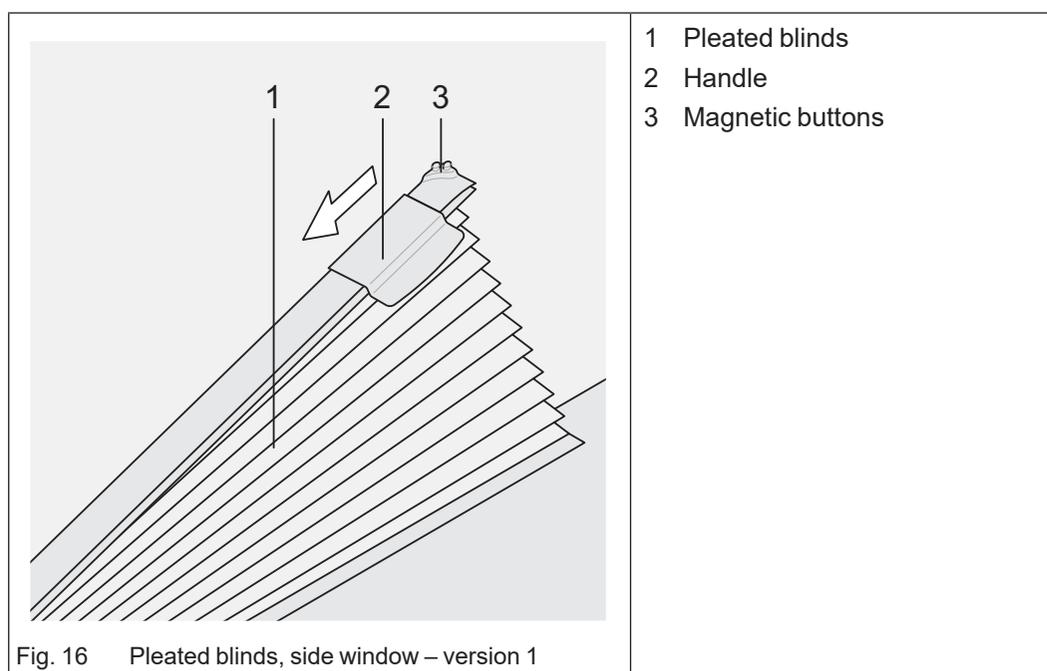

Fig. 16 Pleated blinds, side window – version 1
The pleated view protectors (Fig. 16/1) are integrated in the right and left door frames in the driver's cab.
- Slide the handle (Fig. 16/2) in the direction of the arrow. This unlocks the pleated view protector.
- Unfold the view protector (Fig. 16/1) and attach it to the window frame using the magnetic buttons (Fig. 16/3).